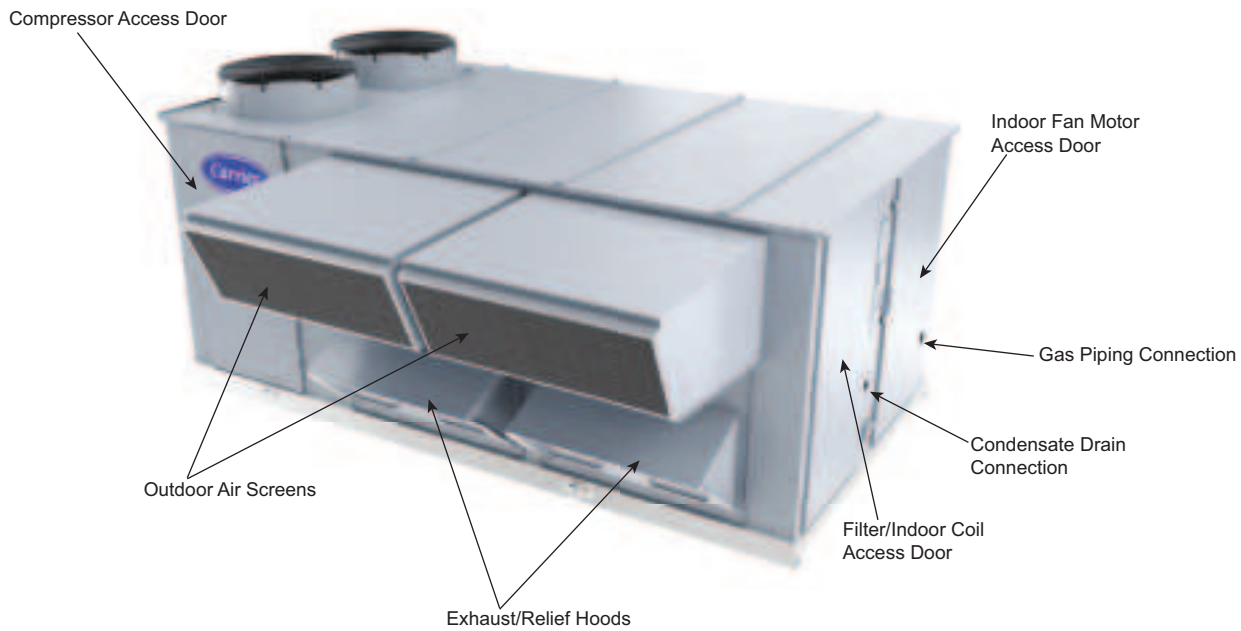

Fig. 2 — 48K Front Maintenance Access (Size 20-34 Shown)
1. Open the filter/indoor coil access door (tool required). Refer to Fig. 2 for access points.